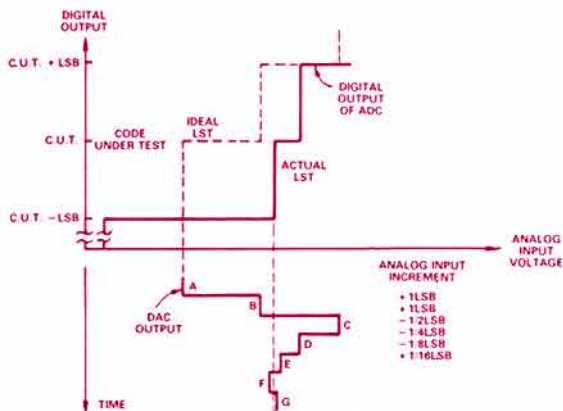

Figure 3. Finding the transition by tracking and successive approximations.
As Figure 3 shows, if the voltage is still below the transition, the DAC output is again incremented by 1 LSB and the cycle is repeated (C). When the code is eventually identified as above the transition (for a linear DAC, this would happen on the first trial), the DAC output is decremented by 1/2 LSB, and the cycle is repeated (D). After several conversions (E,F,G), with successively smaller DAC-output increments or decrements—as appropriate, in the manner of successive approximations—the analog value of the DAC output is within 0.06 LSB (1/16 of 1 LSB) of the actual transition voltage, and the input to the DAC is the corresponding digital code, to 16 bits ± 1 count.